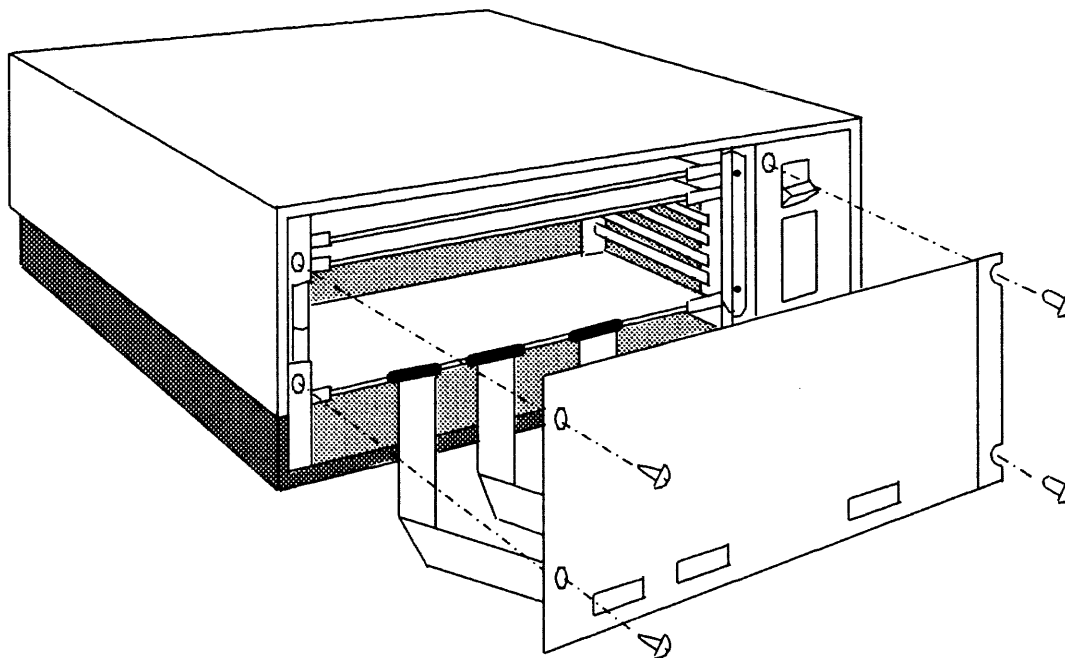

Figure 4-3. Removing the Back Panel
2. Turn the system so its back panel is facing you and remove the four Phillips screws -- two sheet metal screws on the left and two machine screws on the right -- as shown in Figure 4-3.